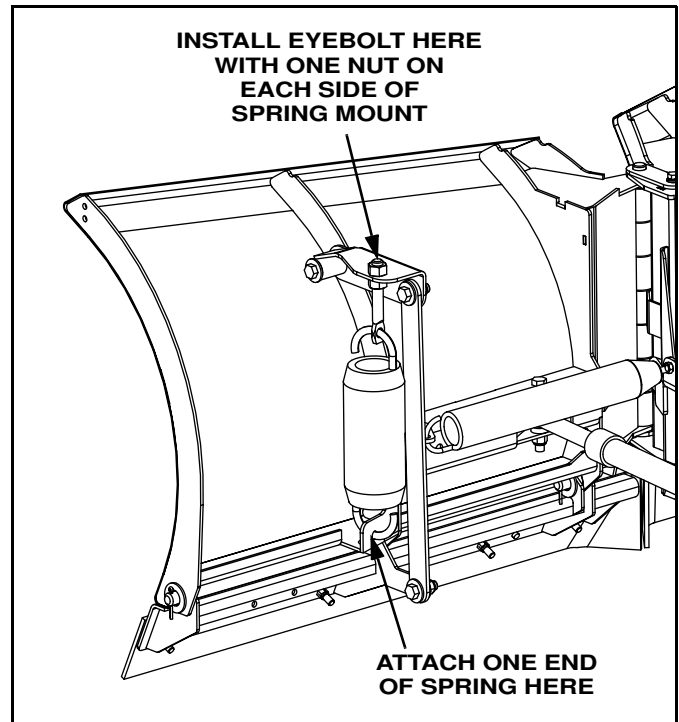

Figure 1-6
8. Hook one spring on lower blade bracket of the drivers side wing. (See Figure 1-6)
9. Thread a nut fully on one eyebolt. Hook free end of spring on eyebolt and insert eyebolt into Spring Mount. Loosely install a nut. (See Figure 1-6)